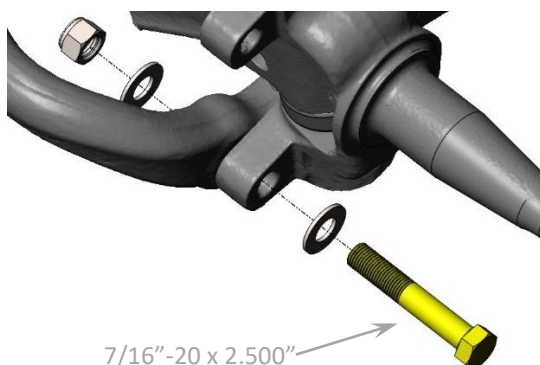

Figure 1a – Steer Arm Bolt Installation
4. Install the provided forward most steer arm bolt at this time. This bolt is not used in the next step to secure the Primary caliper bracket. Insert the 7/16"-20 x 2.500" Grade 8 Hex Head Bolt through the spindle and the steer arm and secure it with the provided 7/16" SAE Flat Washers and 7/16"-20 Nyloc Lock Nuts. See Figures 1a and 1b below for reference on which location to install the bolt. **NOTE: do not fully tighten at this time, it will be torqued in a later step.**